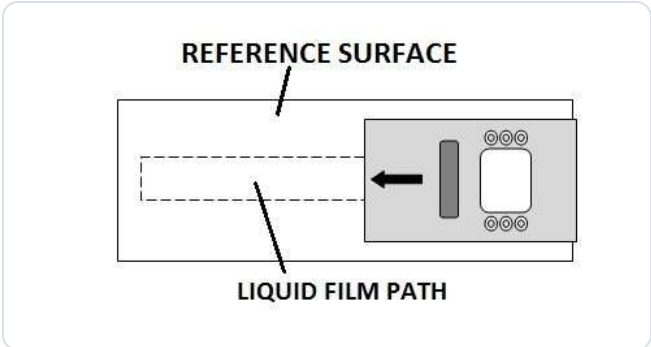

Figure 6. Device position and liquid film path on the validation surface.
- 3 Return the device to its operating position centered over the validation surface, rear edge roughly even with the back edge of the tile (Figure 6). Work on a hard, level, flat surface, never over carpet.